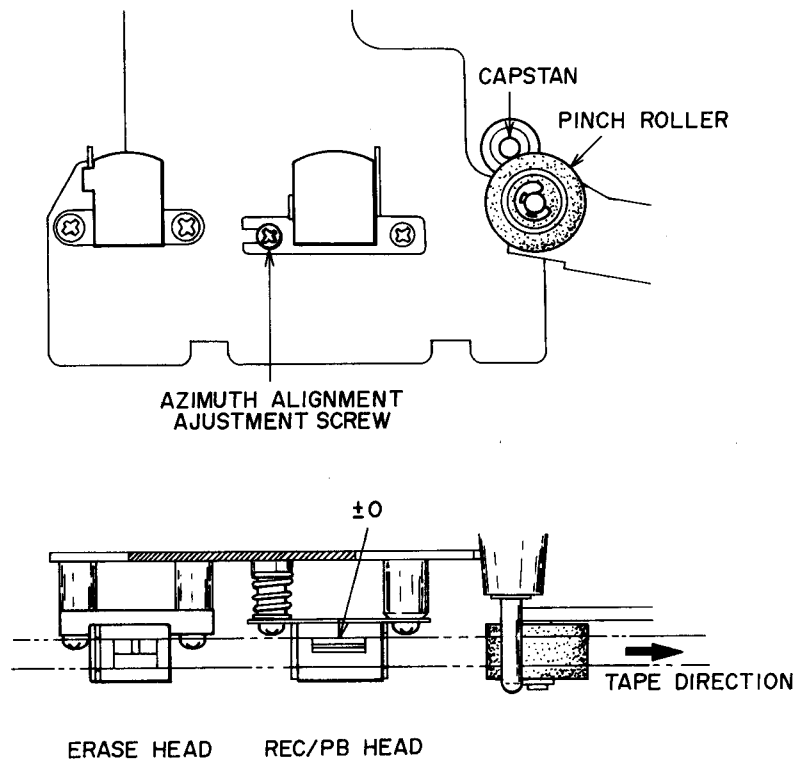

Fig. 9
AZIMUTH ALIGNMENT (Refer to Fig. 9)
- a) Playback a 10 kHz pre-recorded cassette azimuth alignment test tape and adjust screw shown in Fig. 9 to obtain maximum output on both channels.